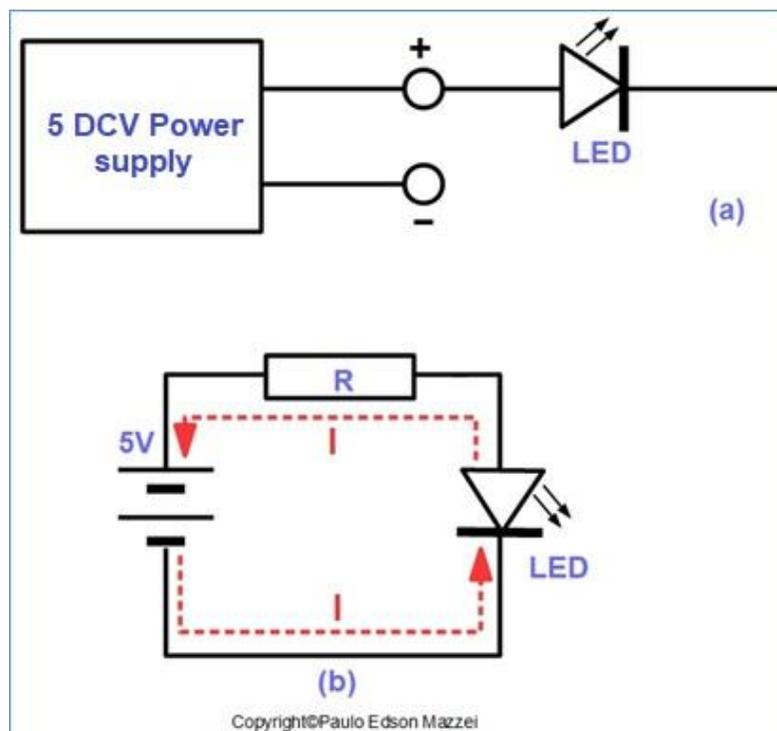

Figure 185 – Simple electric circuit.
In the circuit shown in (a) of **figure 185**, we have an LED connected to a 5-volt power source. Note that only one LED terminal is connected to the positive source. In these conditions we have no electric current (I), circulating because we do not have a circuit, to form a "path" for the electric current.